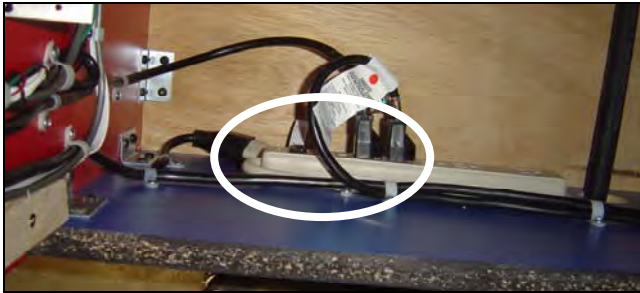

Figure 4 Power Strip with Circuit Breaker
5. Place the middle cabinet in front of and close to the rear cabinet. Feed the white phone cable from the rear cabinet through the middle cabinet. Plug the middle cabinet power cable into the power strip located on the back wall of the rear cabinet. See Figure 4. Plug the lights and target cable connectors into the matching connectors from the middle cabinet.